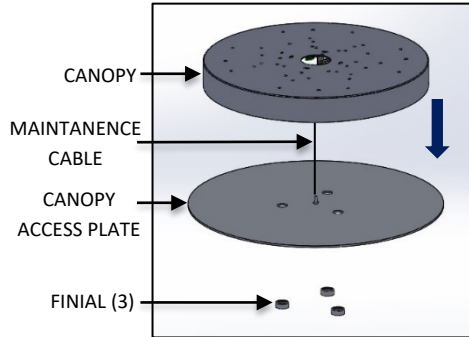

FIG. 5 – CANOPY ACCESS PLATE DIS-ASSEMBLY
1. Dis-assemble the FINIAL and leave the canopy access plate supported by the maintenance cable attached to the CANOPY ASSEMBLY and feed the building supply wire into the hole in the CANOPY as it is raised up to the ceiling as shown in below fig. 5.